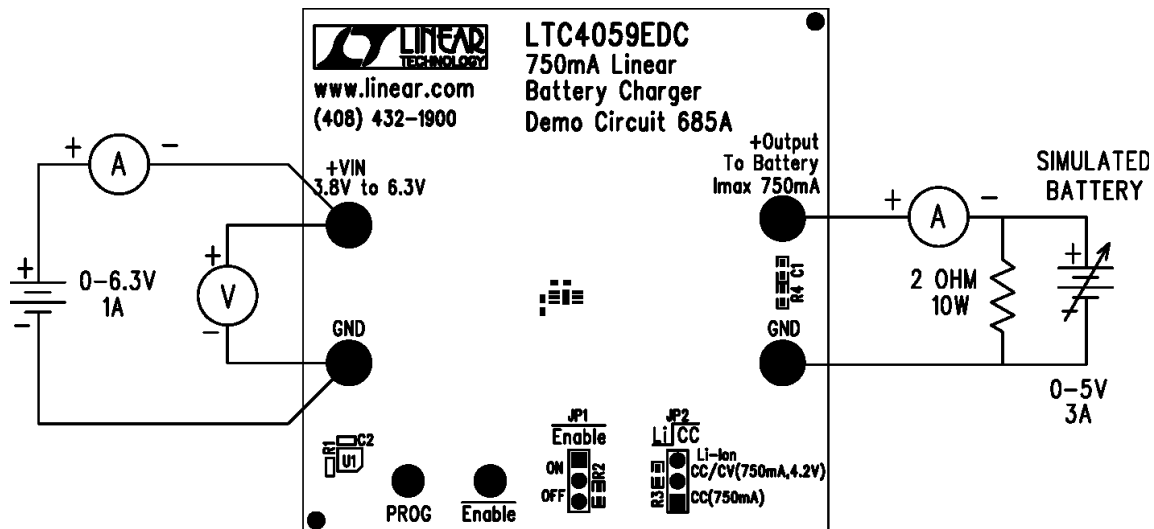

Figure 1. Proper Measurement Equipment Setup
Demonstration circuit 685 is easy to set up to evaluate the performance of the LTC4059. Refer to Figure 1 for proper measurement equipment setup and follow the procedure below:
3. Connect the demo board to the battery simulator as shown in Fig. 1.